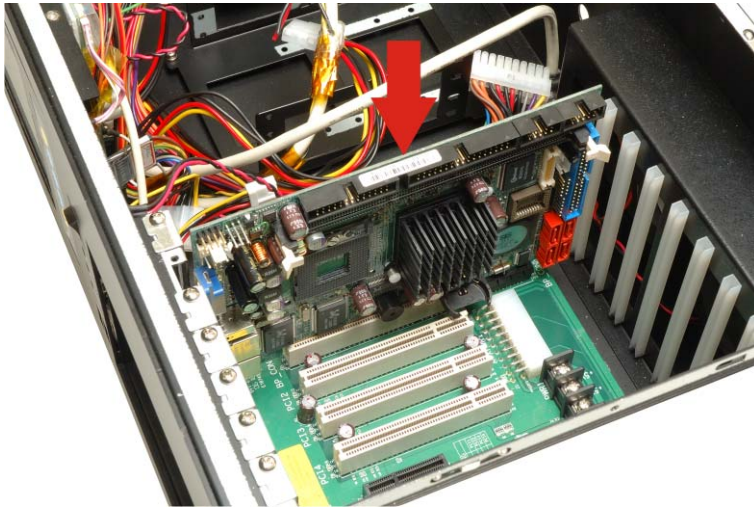

Figure 4-7: Install the CPU Card
Step 2: Slide the CPU card into the reserved PCI/ISA socket on the backplane. (**Figure 4-7**)